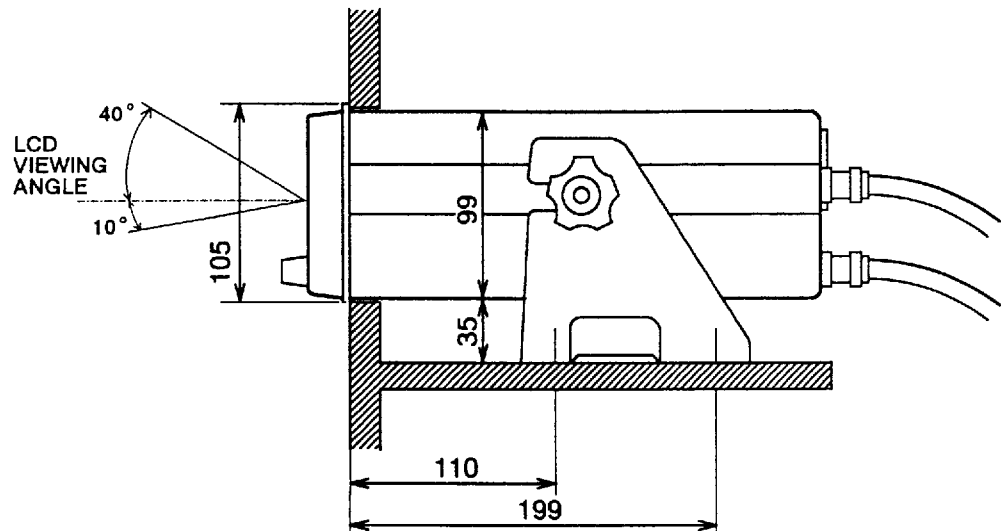

Figure 5-21 Mounting dimensions for semi-flush mount
- Select a place where the LCD can be easily viewed, keeping in mind that the LCD viewing angle is as shown in Figure 5-21.
Prepare a cutout in the mounting location as shown in Figure 5-21.